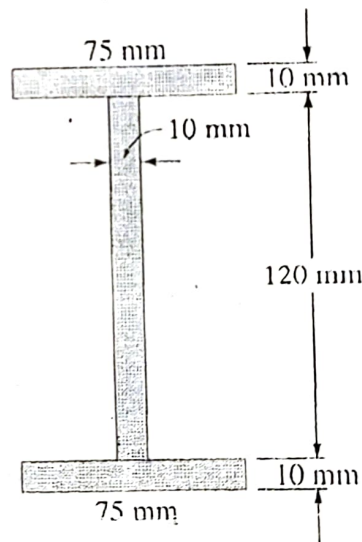

Fig. 3
5. Three steel plates are welded to form a column section shown in *Fig. 3*. If the effective length of the column is 7.5 m, find the factor of safety with respect to buckling for a centric load of 12 kN. Take, $E = 2 \times 10^5 \text{ N/mm}^2$. [14]